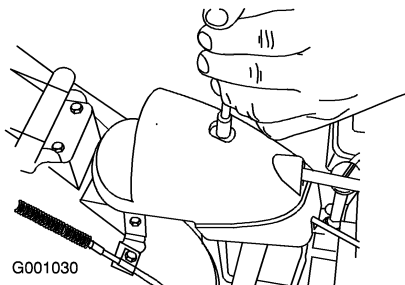

Figure 46
- Remove the fastener on the gear cover (Figure 46), lift the front of the cover up, and slide it back and out of the way.